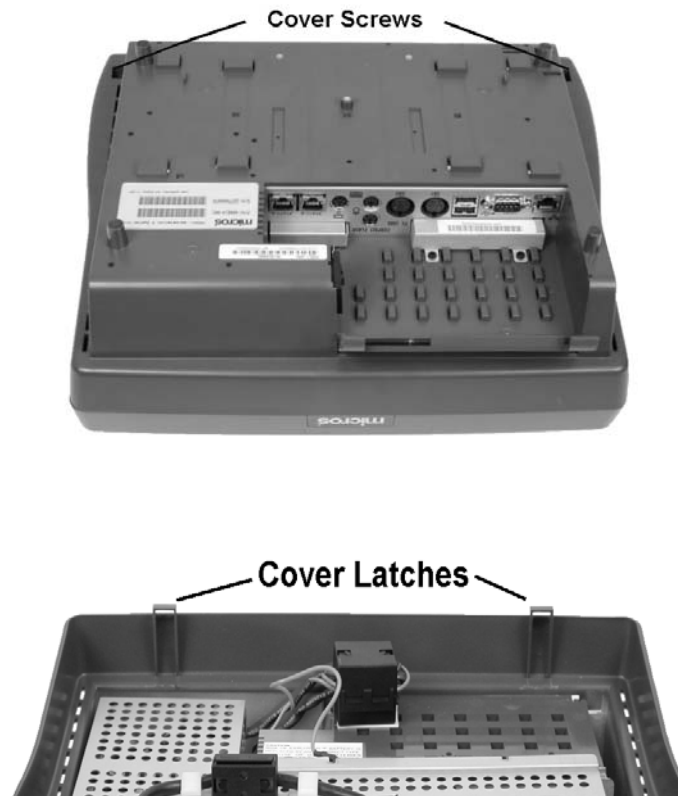

Figure 3-1: WS4 LX Cover Hinges and Screws
- The WS4 LX cover is held in place by a pair of screws accessible from the underside of the unit as shown in the top half of Figure 3-1. A pair of hinges are located at the rear of the base.
3. Loosen the two captive screws from the underside of the unit as shown in Figure 3-1.